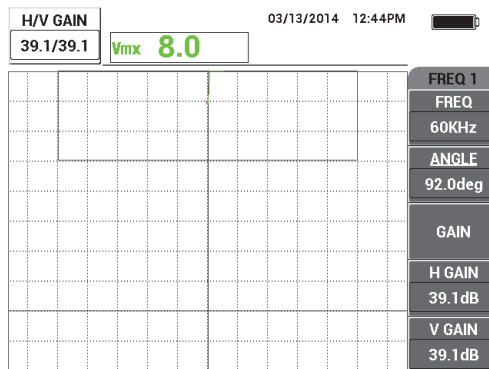

Figure 5-87 Adjusting the gain
8. Press the ERASE key () , place the probe on the sample again (this time use a larger lift-off or paint thickness value; for example, the thickness of three business cards), and then press the GAIN key (**dB**), and decrease the gain until the live dot is within the screen area and is at about 90 % of the screen height (see Figure 5-87 on page 189).